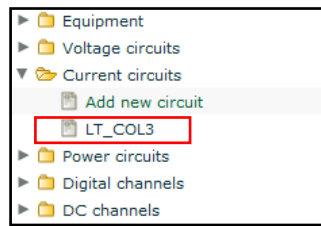

Figure 89: Current Circuit name
8. Enter the names of the Current Circuits A and B. As it is configured in the RPV311, Figure 89. These circuit names are used to identify the correct Fault chart used in the Advanced TWFL Method. Refer to TW Fault Location Methods 2.3.3 for more information.